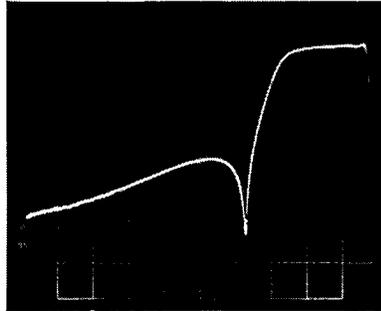

Fig. E-3: DISTORTION CANCELLATION RESPONSE
1) Connect the output of the 5L4N tracking generator to TPI of Card #8 (pin L on the card connector). Connect the input of the 5L4N to the left rear-panel TEST JACK. Observe the swept response with the 5L4N vertical span at 10dB/div, with 20-20kHz log frequency sweep. The swept response shows the response of the "Smart Clipper" to clipping-induced distortion components only. Note the high amount of rejection below 2.2kHz, and the very steep slope at 2.2kHz (see Fig. E-3).
If this swept response does not resemble Fig. E-3, then there is a fault in either the filters or phase correctors between the card input and the output of IC803B. This test is both fast and sensitive because accurate cancellation demands accurate matching of the phase and amplitude responses of both the phase-corrected 15kHz lowpass filter and the distortion-cancelling filter. If any circuitry is faulty, then the cancellation will not occur accurately.